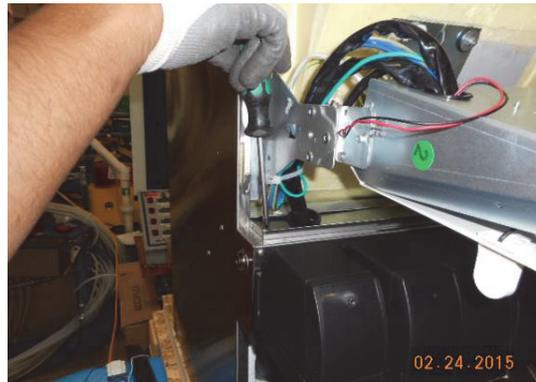

Figure 4.
1. Remove baffles and metal covers from above and behind the valve area (See Figure 4).